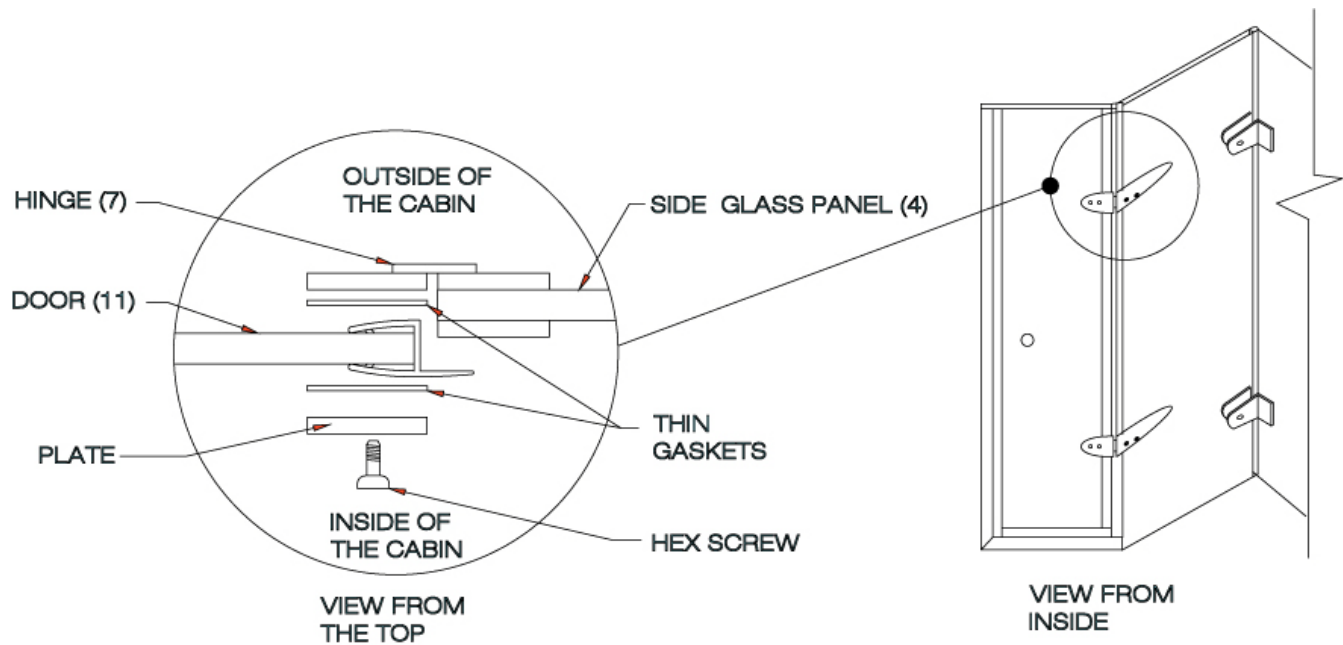

FIG.8
3. Place thin gasket on each side of the door between the glass and hinge while keeping the door in position. [SEE FIG.8]